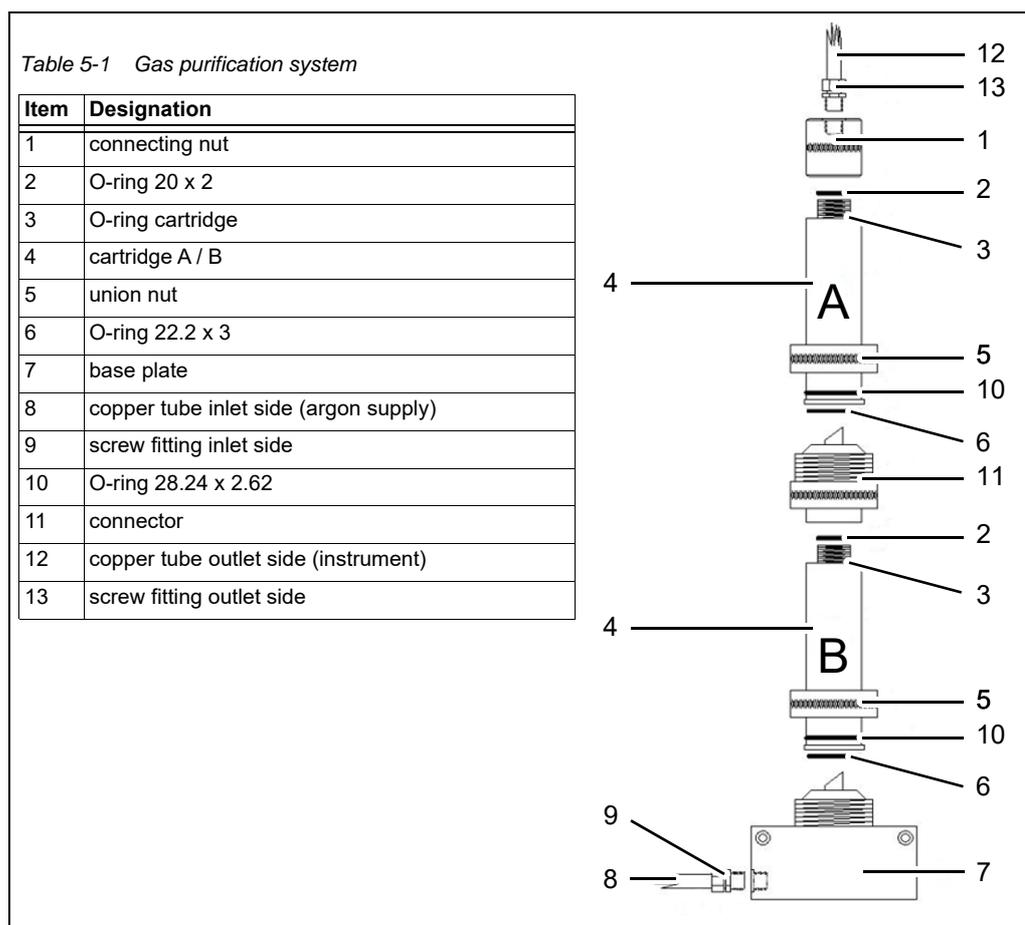

Fig. 5-11 Gas purification system
1. Cover the screw fittings (9, 13, fig. 5-11) with NPT 1/4" external threads with Teflon tape. Wrap 5 to 6 layers of customary Teflon tape (width approx. 10 mm) tightly around the conical thread with a clockwise movement.
2. Screw the screw fitting (9) of the inlet side into the base plate (7) finger-tight.
3. Screw the screw fitting (13) of the outlet side into the connecting nut finger-tight.
5. Slide the O-rings (10), dimensions 28.24 mm x 2.62 mm, over cartridges A and B (4).
6. Slide the union nut (5) over cartridges A and B with the threaded side pointing down.
7. Insert the O-rings (6), dimensions 22.2 mm x 3 mm, into the bottoms of cartridges A and B.
8. Insert the O-rings (2), dimensions 20 mm x 2 mm, into the connecting nut (1) and into the connector (11).
9. Screw cartridge A, generally fitted with an O-ring (3), tightly into the connecting nut (1).
10. Screw cartridge B, generally fitted with an O-ring (3), tightly into the connector (11).
11. Connect the inlet line (8) and the outlet line (12) with the screw fittings (9 and 13).